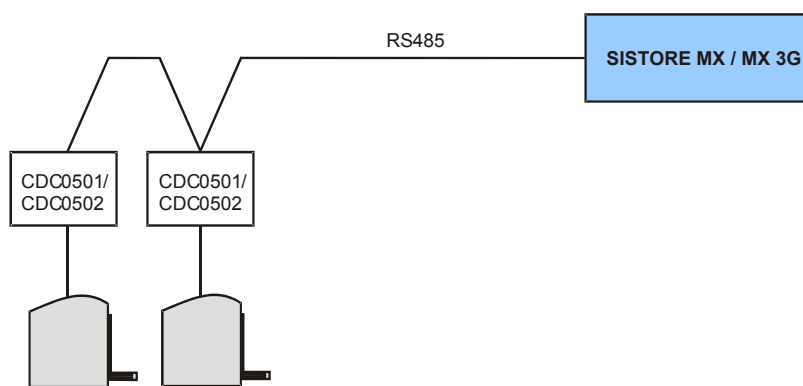

Fig. 21 Controller CDC050x – system overview
1. Connect the pan-and-tilt units via controller CDC0501 or CDC0502 to the RS485 port (COM2) of the SISTORE (see Fig. 21).